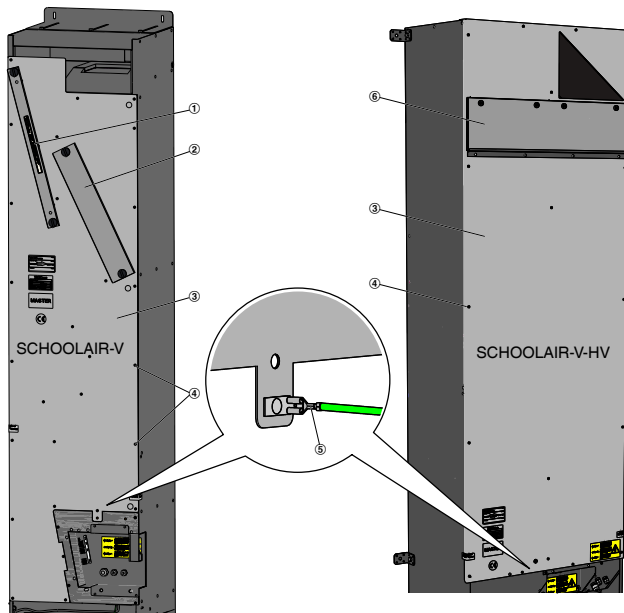

Fig. 28: Removing the cover plate (SCHOOLAIR-V and SCHOOLAIR-V-HV only)
- Remove the extract air filter (Fig. 28/1) and remove the cover (Fig. 28/2) from the outdoor air filter chamber ↪ on page 36.
- Remove the cover plate (Fig. 28/3) by loosening all the Phillips screws (Fig. 28/4) on the plate.
Disconnect the protective conductor (Fig. 28/5) when you remove the plate.